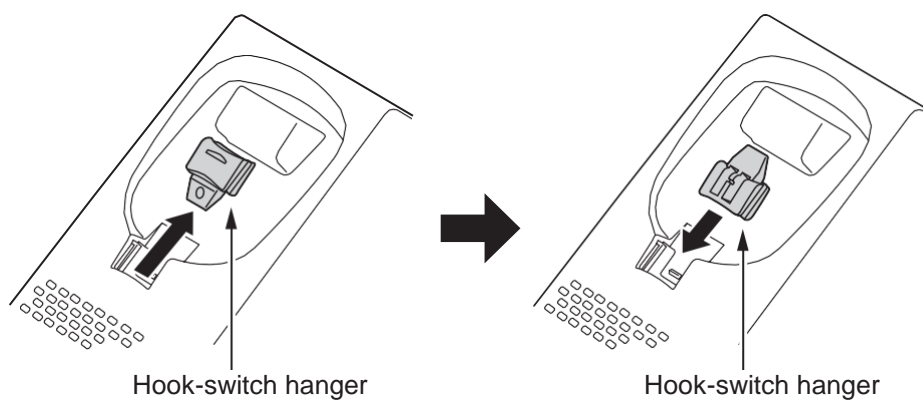

Figure 2-92 Hook-Switch Hanger
3. Remove the switch-hook from the unit. Turn the tab toward the top. Then slide the hook-switch into position. Refer to Figure 2-92 Hook-Switch Hanger.